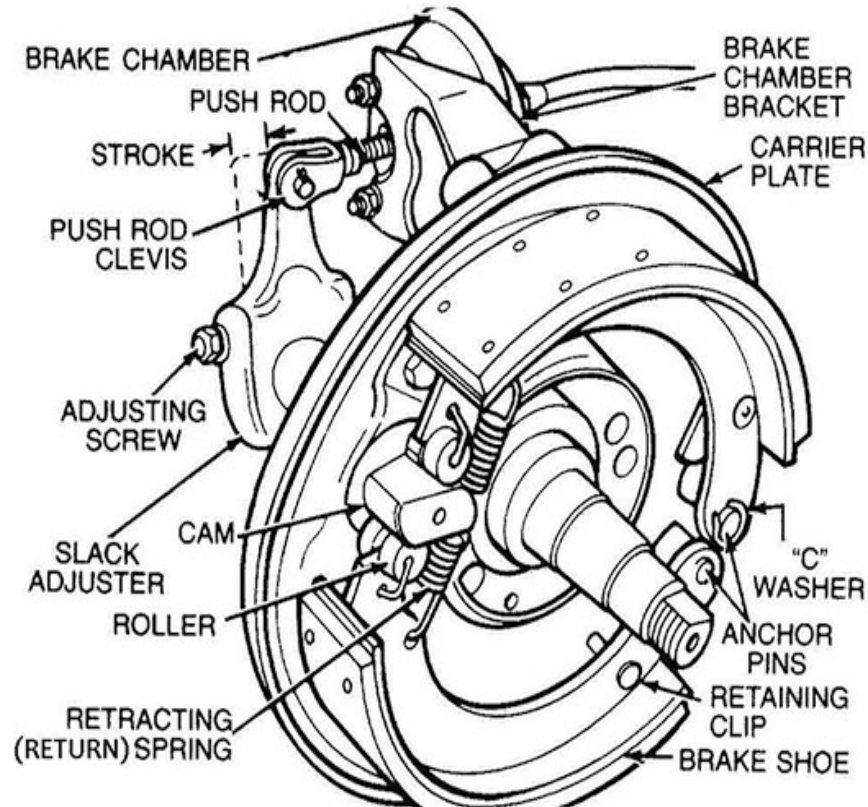

Figure 1-19. Cam brake and slack adjuster.
1. The push rod then pushes on the slack adjuster arm, which rotates the brake camshaft, also called a cam (fig. 1-19).